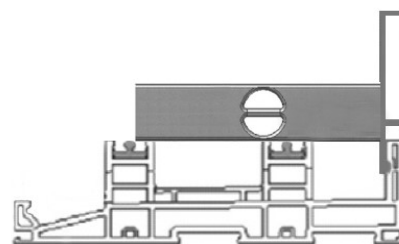

Figure 17
2. Locate the frame jambs. If an add-on fin (Item 27) needs to be installed, locate the fin(s) and remove the frame jamb anchor plates (Item 2; Figure 17) closest to the exterior of the opening. Install the add-on fins in place of the anchor plates. Slide the fin into the frame head.
**Helpful Tip:** Use a short torpedo level and balance it across the frame sill to verify the sill is level from inside to outside (Figure 17). Use a plumb bob to make sure the frame head is in alignment with the sill. If the tracks at the frame sill and head are not aligned, panels may not roll correctly.